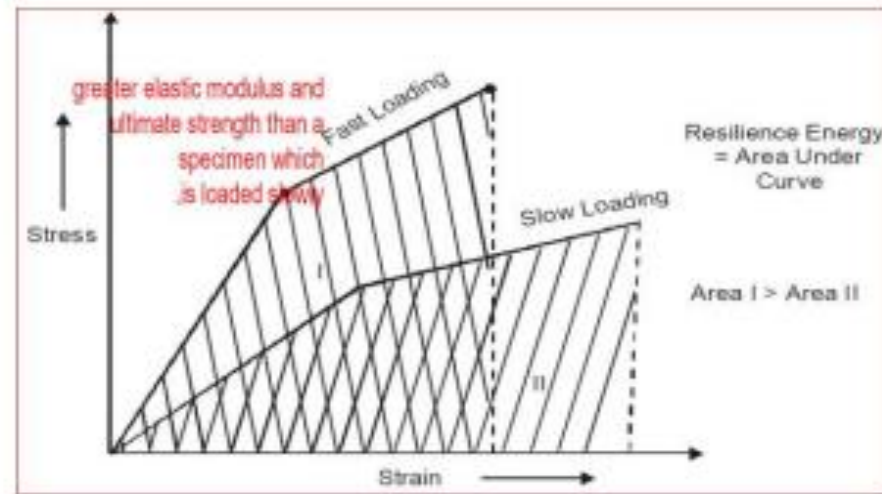

Fig. 4 Fast and Slow Loading of the bone
- It has been seen that a specimen of bone which is loaded rapidly, has a greater elastic modulus and ultimate strength than a specimen which is loaded slowly. This has been shown in the figure 4 . We also know that **resilience energy is the area under the stress and strain diagram**.